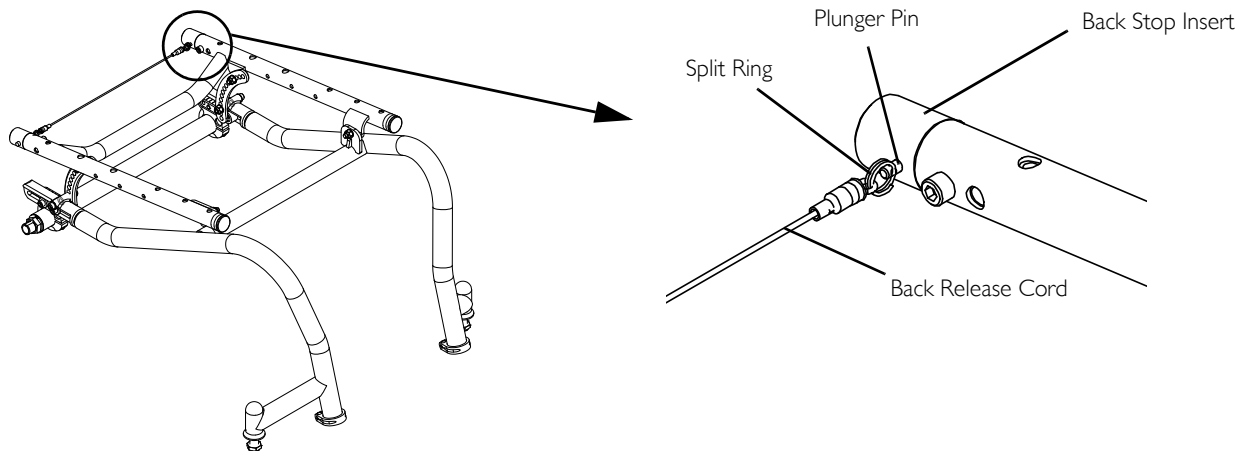

FIGURE 5 Connect Back Release Cord
13. Install the plunger pin into the back stop insert (FIGURE 5).
14. Secure the split ring of the back release cord onto the plunger pin in the back stop insert (FIGURE 5).